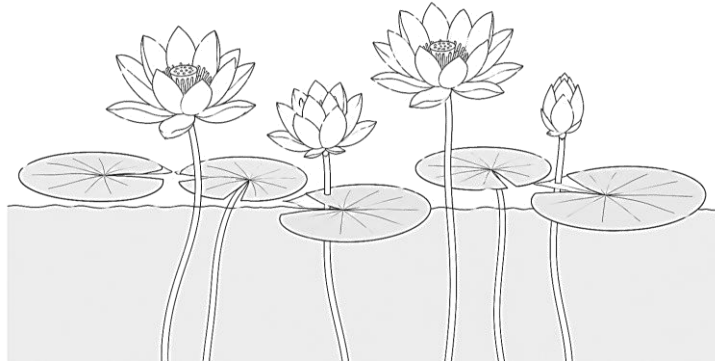

Fig. 2.3
- (iii) The leaves of lotus plants float on the surface of the water as shown in Fig. 2.3.